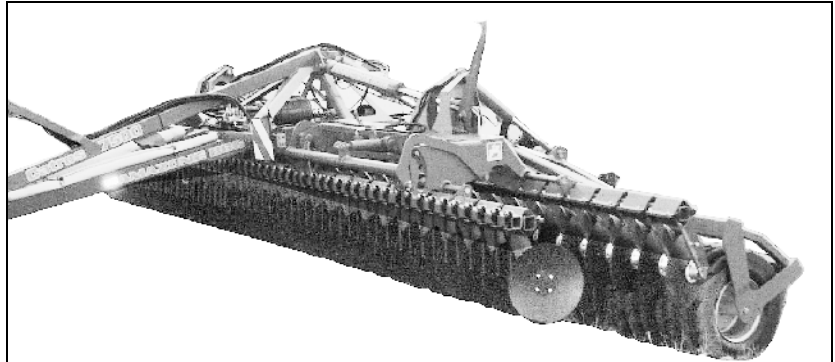

Fig. 78
- Raise both disc rows completely (Fig. 78).